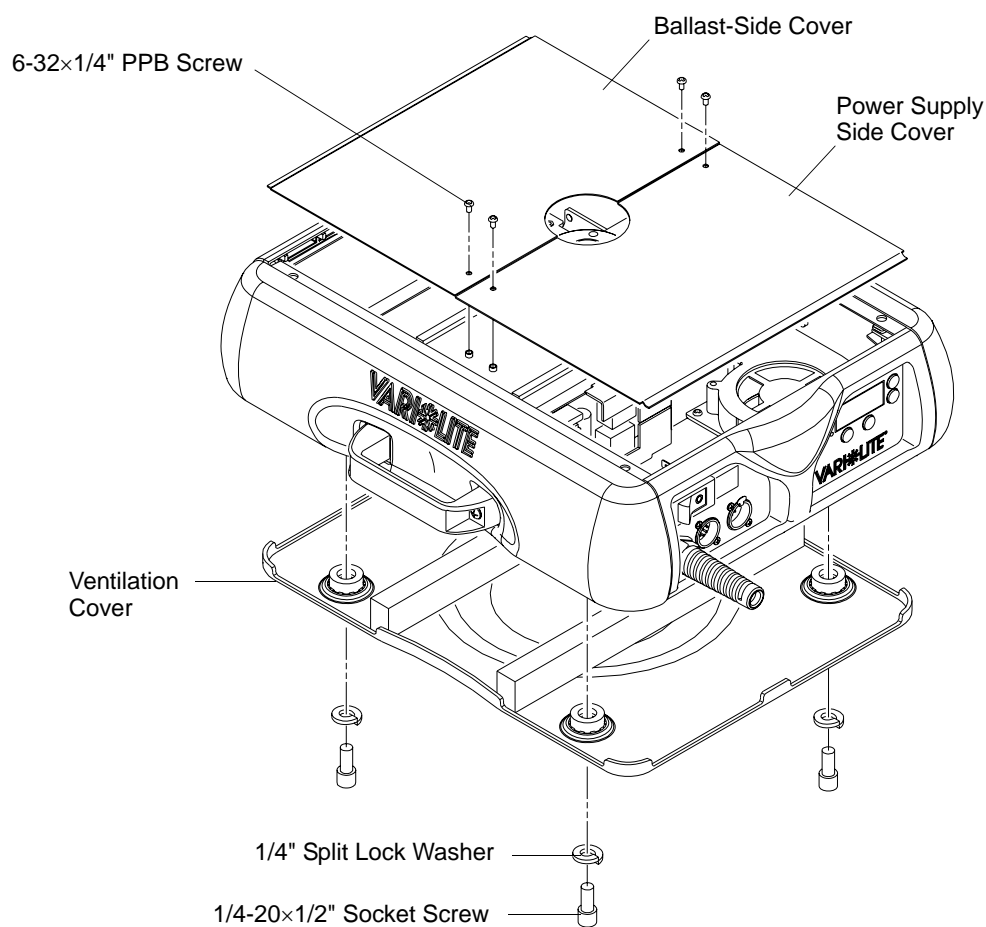

Figure 2-19: Removing Top and Bottom Enclosure Covers
- Step 3. At each top enclosure cover, remove two 6-32×1/4" PPB screws and remove cover as shown in **Figure 2-19**.